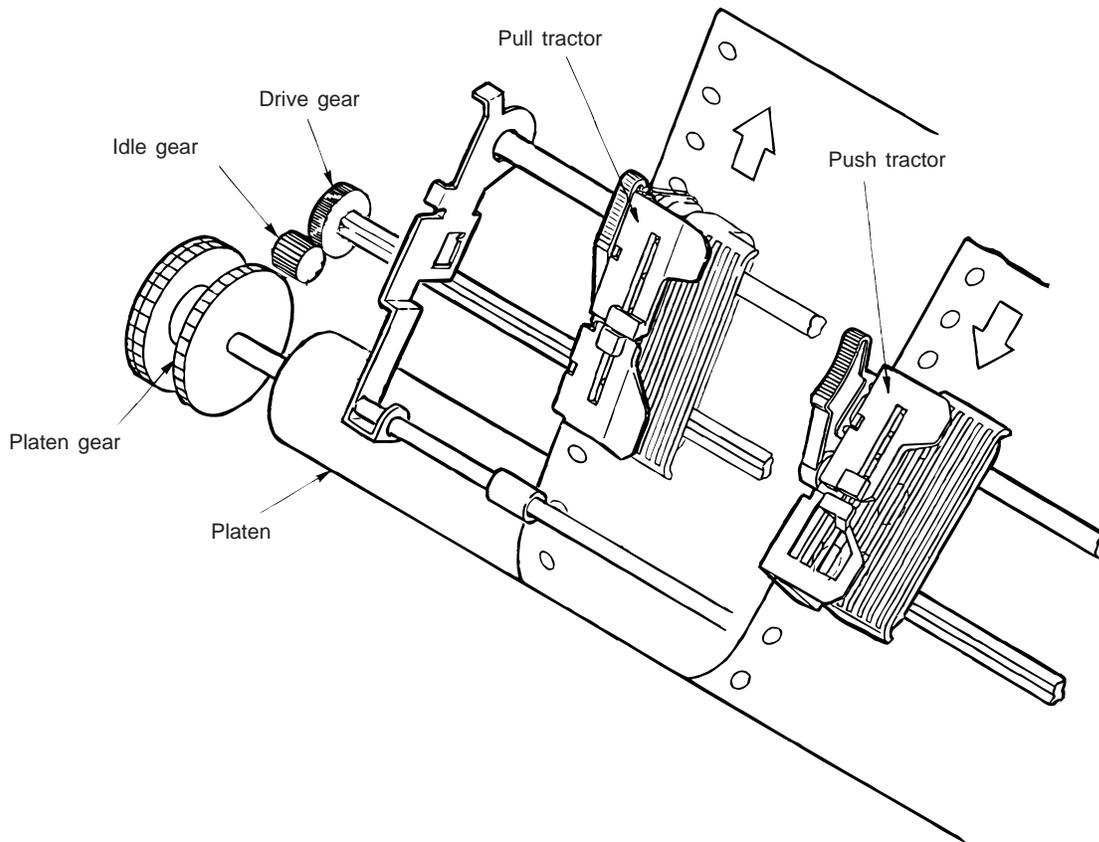

Figure 2-11
(4) Pull tractor (option) and push tractor operation (See Figure 2-11)